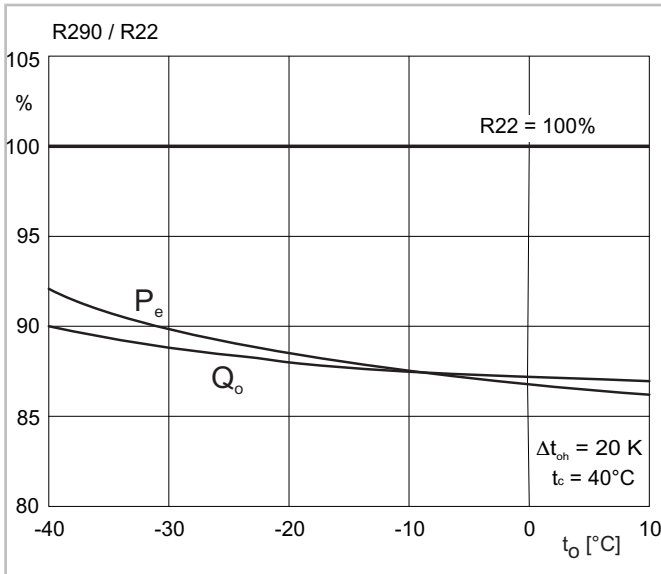
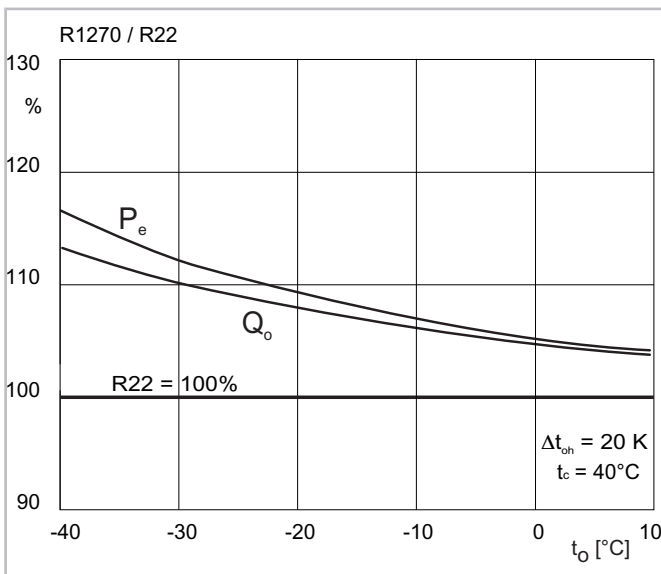

Fig. 7: Performance comparison R290/R22 for suction gas cooled semi-hermetic reciprocating compressors
Fig. 8: Performance comparison R1270/R22 for suction gas cooled semi-hermetic reciprocating compressors
- In terms of their coefficients of performance (COP), R290 and R1270 differ only slightly from R22 (see figure 7, page 26 and see figure 8, page 26) and are thus better suited than R404A/R507A for medium-temperature and air-conditioning applications.